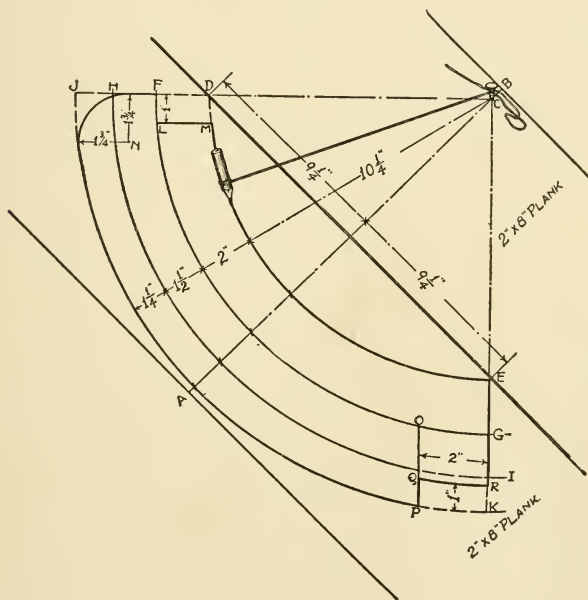

FIG. 201.
in Fig. 201. First cut the plank in half, and then place these two pieces side by side upon the floor or work-bench, as shown in the drawing, one piece upon which to draw the pattern, and the other upon which to locate the centre for drawing the curves. Then square the line *AB* across the planks,
**Drawing the Curves** is with a piece of cord, to one end of which a pencil has been tied (see Fig. 201). With this as your compass, hold the end of the cord at *D* for a centre, and with a radius of ten and one-quarter inches strike an arc cutting the line *AB* as at *C*. *C* is now the required centre for drawing the curves. Drive a small nail into the plank at *C*, and wind the end of the compass cord around it until the correct length of radius is obtained (see drawing). Describe the arc *DE* with a radius equal to *CD*, or ten and one-quarter inches.